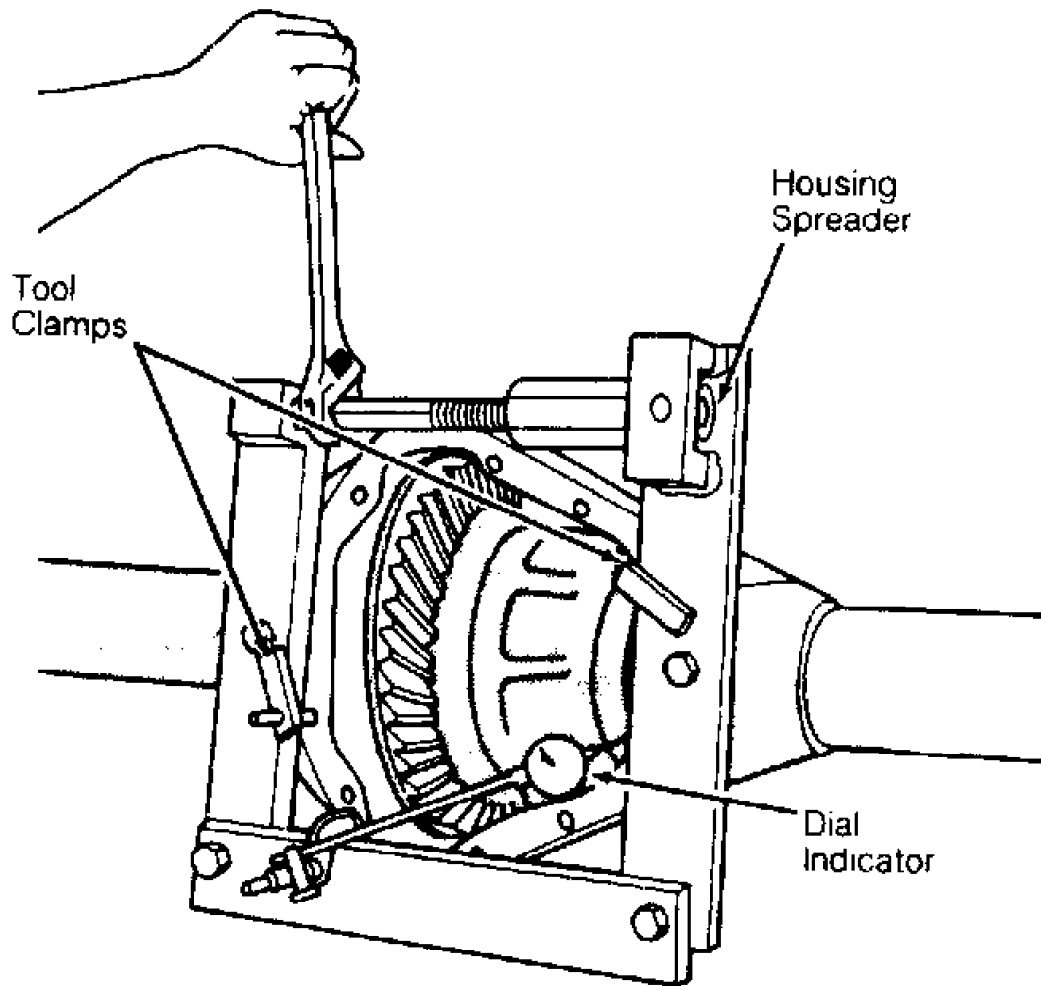

Fig. 3: Spreading Housing To Remove Differential Carrier
2) Remove wheels, brake rotor/drums and axle shafts. Mount Housing Spreader (W-129-A) on axle housing. Mount dial indicator. Spread housing enough to remove differential carrier. See Fig. 3.